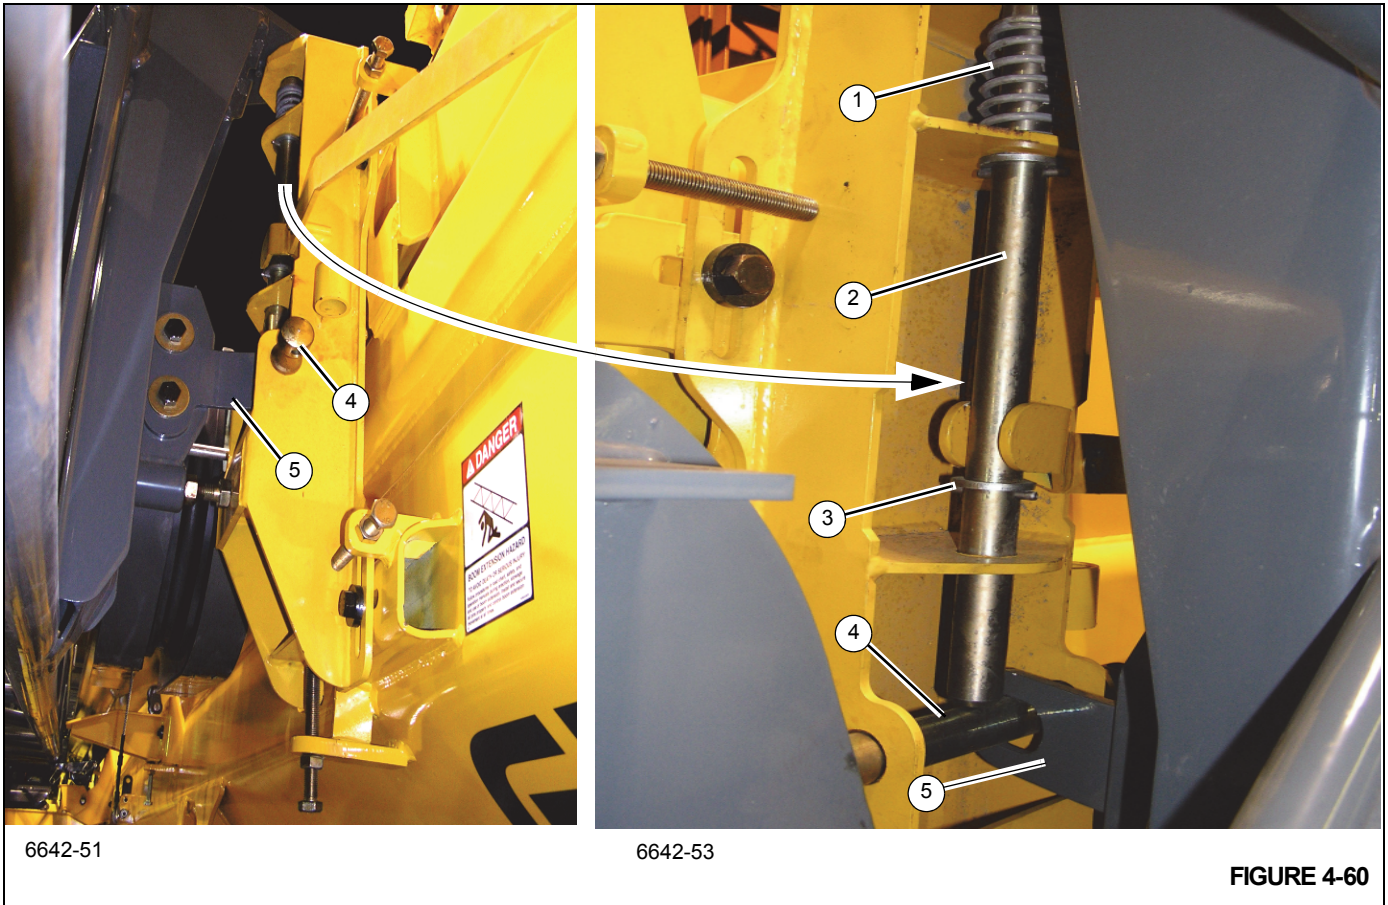

FIGURE 4-60
If front latch spring pin (2) (Figure 4-59) & (2) (Figure 4-60) does not engage the 33 ft lattice extension (1) (Figure 4-59), **STOP**. DO NOT continue to stow the boom extensions until the front latch spring pin (2) has been properly engaged and the locking pin (4) (Figure 4-60) has also been installed correctly.
Contact Manitowoc Crane Care for correct adjustments if unable to align the lattice extension with the spring pin (2) (Figure 4-59) & (2) (Figure 4-60) or the locking pin (4) (Figure 4-60).
From ground level, visually verify spring pin (2) (Figure 4-60) has engaged the 33 ft lattice extension (5). Check for engagement by seeing if spring (1) is extended; washer (3) should not be touching plate.
- 14. Install locking pin (4, Figure 4-60) and retainer clip (not shown). **DO NOT continue to stow the extension if the locking pin (4) is not installed correctly.** Refer back to the DANGER note called out before Step 12 of this procedure.
**Never** remove the stowage pins (1, Figure 4-61) from the right side boom nose lugs until the 33 ft (10.1 m) lattice extension has been properly placed on the rear stowage ramp and secured to the front latching bracket (Figure 4-59 and Figure 4-60).